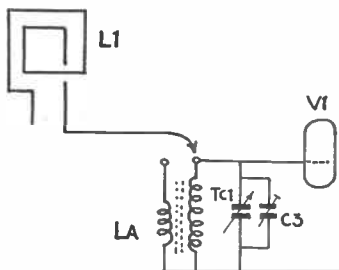

Fig. 15
Turn the pointer on the dial to the Third Programme and switch on. Adjust the slug of the new coil (LA) for maximum signal. Then set the pointer to the Light Programme and adjust trimmer C3 for maximum volume. Repeat these operations. Fig. 15 shows the theoretical circuit of the new arrangement. LA is the tuned aerial coil and the original frame aerial is now operating purely as an external aerial. The pick-up power of the set is increased by this arrangement and it is well worth trying.